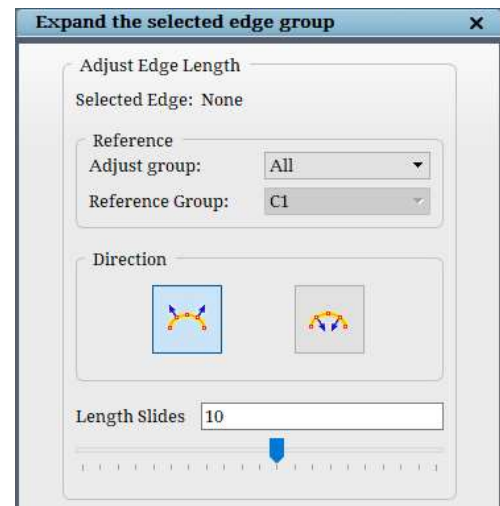

Figure 4.115: Edge Length dialog box
**Edge Length** is a topology repositioning tool which is located at the last row of the *Edit(Topology)* section. It helps in adjusting the length of the selected edges by moving either side of the topology sheet based on the options selected in the dialog box. Clicking on the **Edge Length** button opens a dialog box, as shown in Figure 4.115. The first option is a workspace input where the edge ID and its corresponding linked corners are displayed when you select the required edge whose length (also the length of its parallel edges) has to be increased/decreased. The second option in the dialog box is **Reference** section, which has two inputs **Adjust Group** and **Reference Group**. These two inputs help in deciding the edges whose length has to be changed. Selecting *All* under Adjust group will change all the length of the parallel edges of the selected edge. Selecting *Group* will enable the **Reference Group** input where you will have to select a corner group; only the parallel edges length which falls under the given reference group will be changed. Selecting *Edge* will only change the length of the selected edge and leave all its parallel edges unaltered. The third option in the dialog box is the **Direction**. Selecting the direction will highlight the topology sheet with a green coloured arrow, which will be